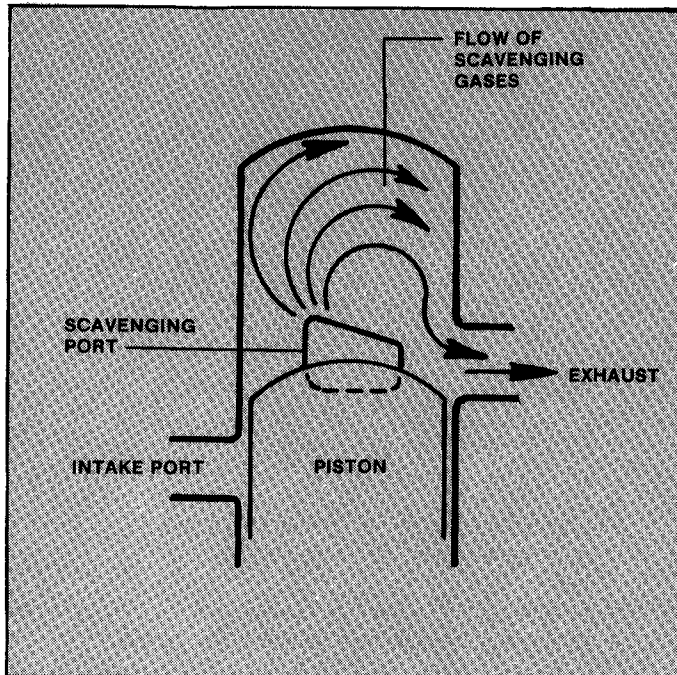

FIGURE 2.11
- B. The operative relationship between intake, scavenging and exhaust ports is shown below. Figure 2.11.